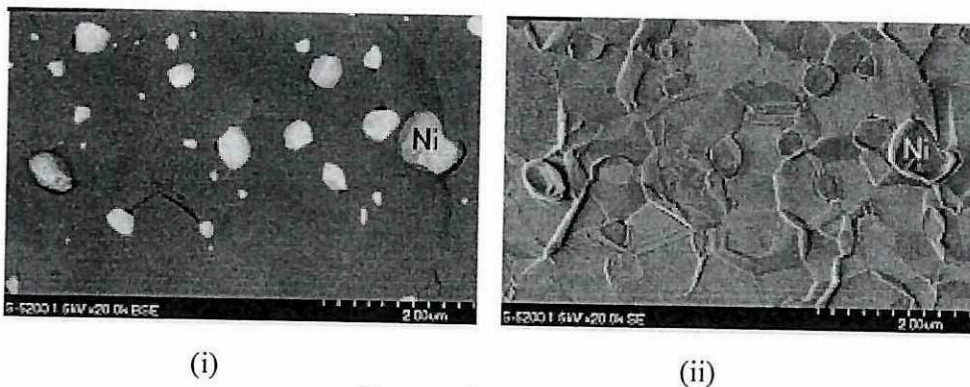

Figure Q4.1
- (d) Evaluate SEM images of sample Al_2O_3/Ni composite as shown in **Figure Q4.1 (i and ii)** in term of signal and function. (7 marks)